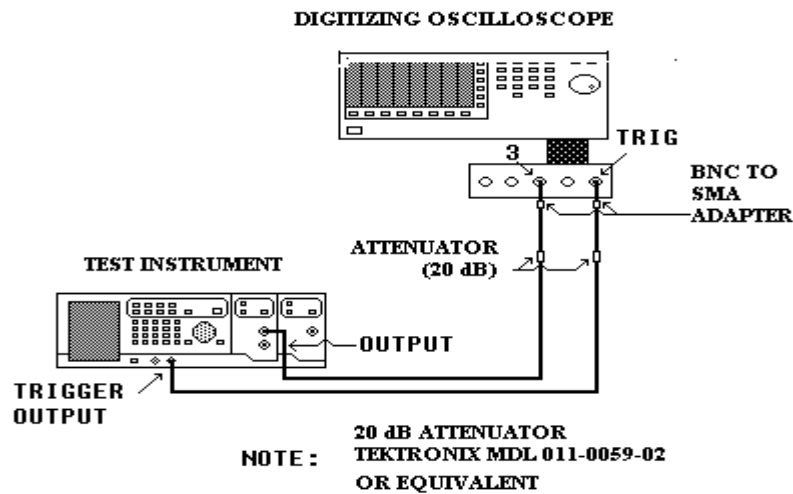

Figure 3. Period.
(1) Connect equipment as shown in figure 3 below.
- (1) Connect equipment as shown in figure 3.
- (2) Reset digitizing oscilloscope and cal the gain.
- (3) Press TI pushbuttons as listed in (a) through (h) below: